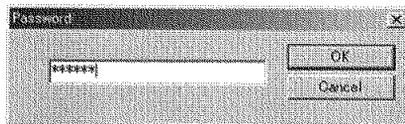

Figure 5-303
- 4) The password screen is displayed, so after inputting the 6 characters "market," select [OK]. (See Figure 5-303.)